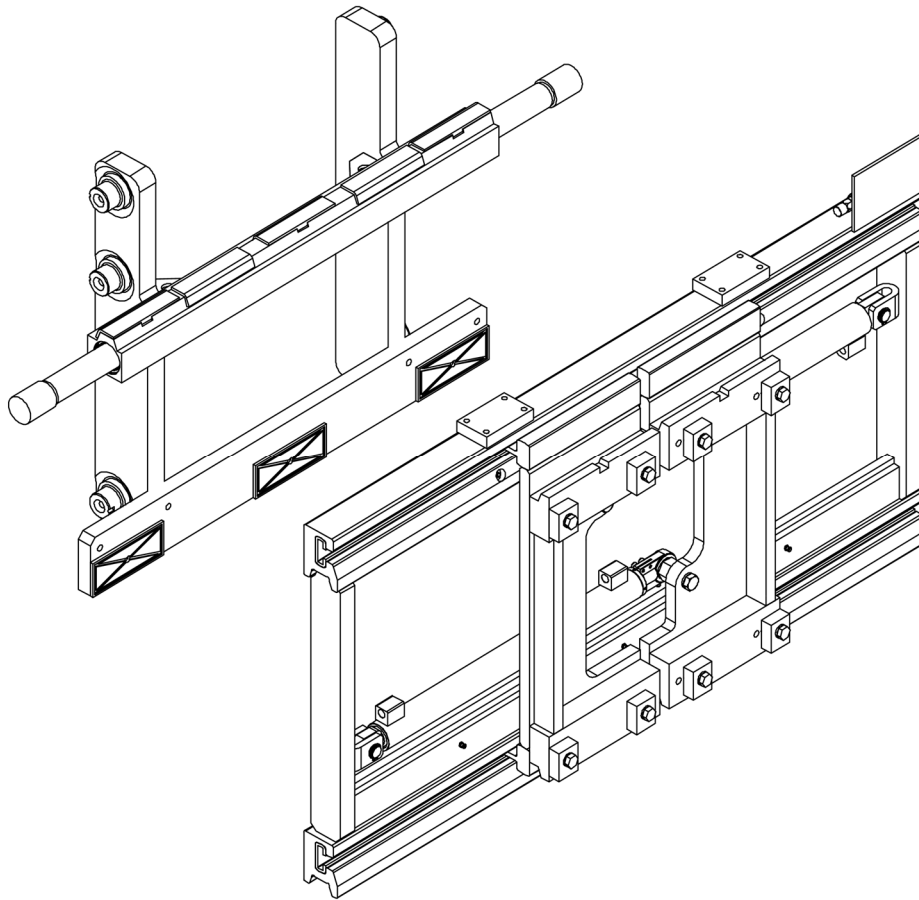

Figure 32
3. Remove the front sliding structure by lifting it properly (see *Figure 32*).